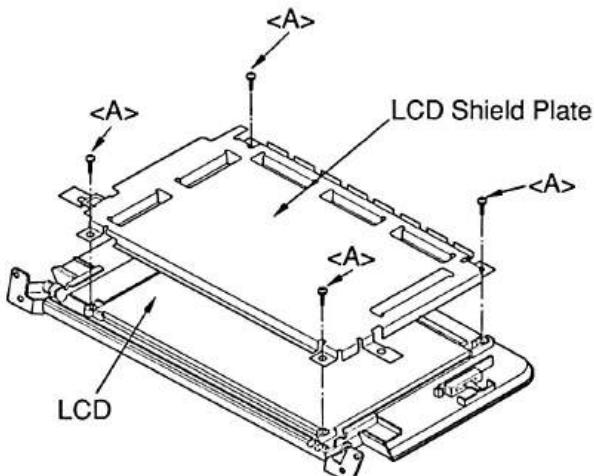

Figure 23
- (11) Remove four screws <A> (2.6Ø×6) fixing the LCD shield plate as shown in Figure 23. Remove hinges and lift off LCD shield plate.